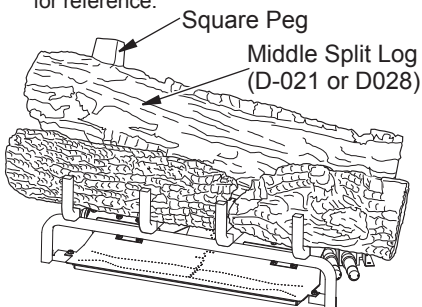

Figure 28 - Installing Middle Split Log (D-021)
- Find the middle split log (LMF42-SC: D-021 or LMF48-SC: D028). See Figures 28 and 28A. The split side of the log faces forward. The log has a notch that fits around the burner tube on the right side. Place the log over the burner and pull the right side forward until it touches the back of the front right log. The log is placed properly when it sits parallel to the tube burner and the square peg is pointing up. See figures for reference.